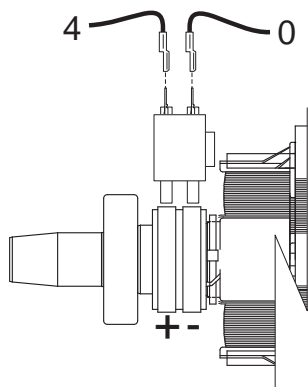

Figure 6. Checking Brushes and Slip Rings
1. See Figure 6. Carefully inspect brush wires; make sure they are properly and securely connected.